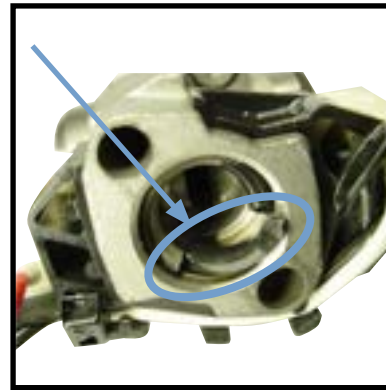

Figure 1
- Air leaks heard from underneath valve cover could be present at injector oil inlet seals (Figure 1), oil rail outlet fitting seals (Figure 2), oil rail front port plug seals (Figure 3), or stand pipe seals (Figure 4).